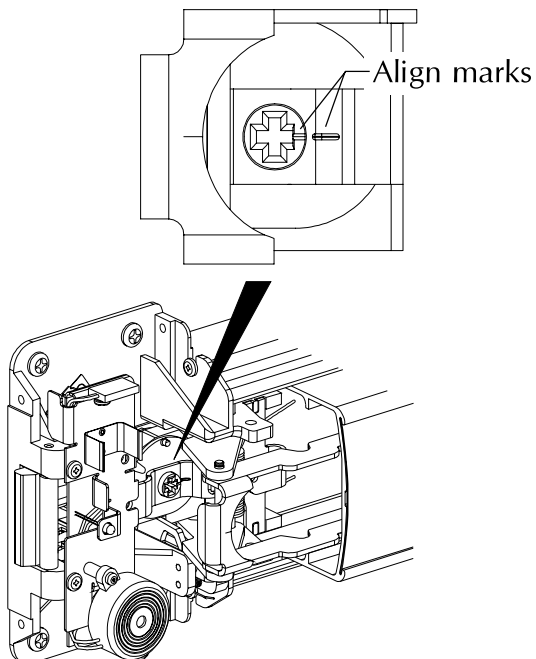
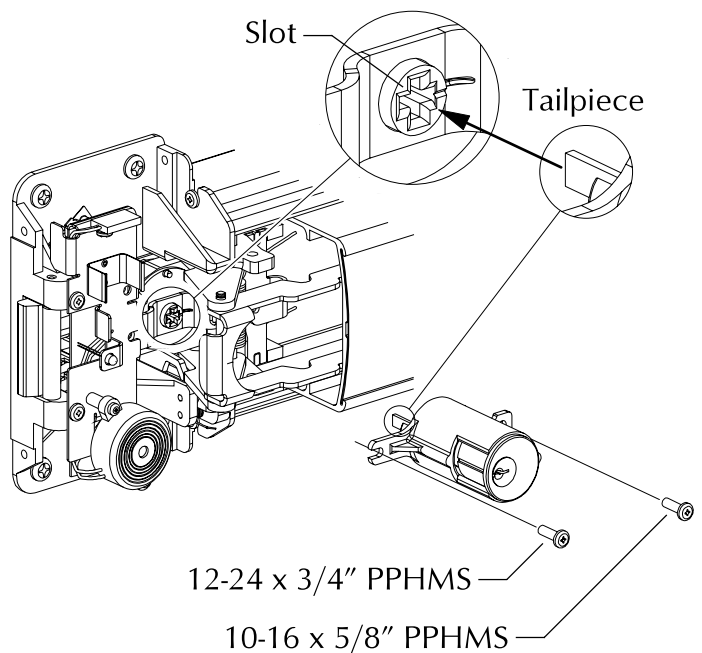

Figure 8
Figure 9
- 7 Use Phillips screwdriver to rotate cross slots inside center case so marks align (Figure 8). Install cylinder bracket, making sure cylinder tailpiece engages slot in center case (Figure 9). The cylinder bracket screws are different. Be sure to install the screws as shown in Figure 9.